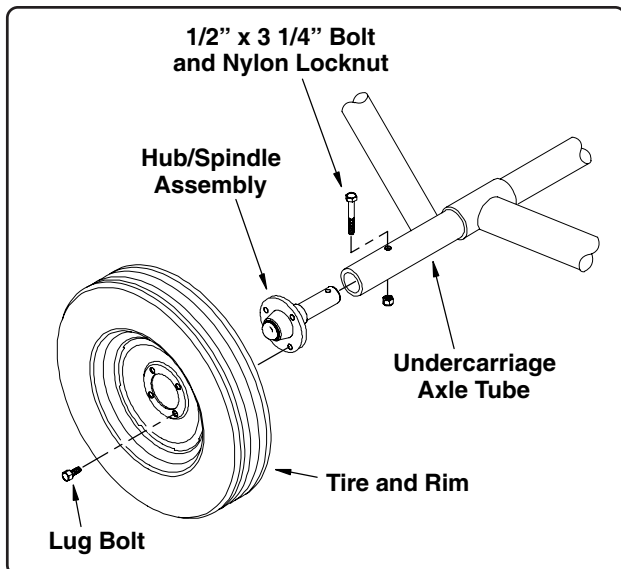

Fig. 34
2. Raise and support the undercarriage axle tube just high enough to allow installation of the tire and rim. Slide the hub and spindle assembly's into the axle tube and secure each hub to the axle using one (1) 1/2" x 3 1/4" bolt and nylon locknut (See Fig. 34). Mount the tire and rim and secure using the lug bolts provided.